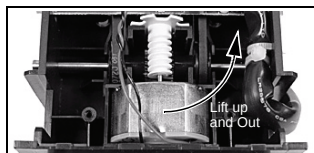

Figure 3-11 Motor Removal
15. Lift the motor up and out of the frame (See Figure 3-11).